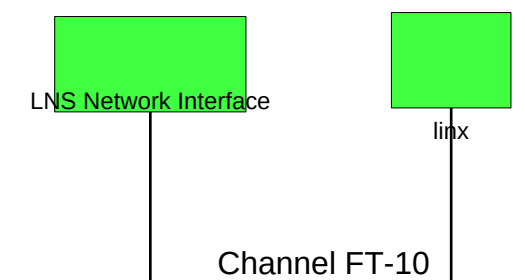

Figure 120: The L-INX has been added to the drawing.
10. Finally, you should get the device added to your drawing as depicted in Figure 120.